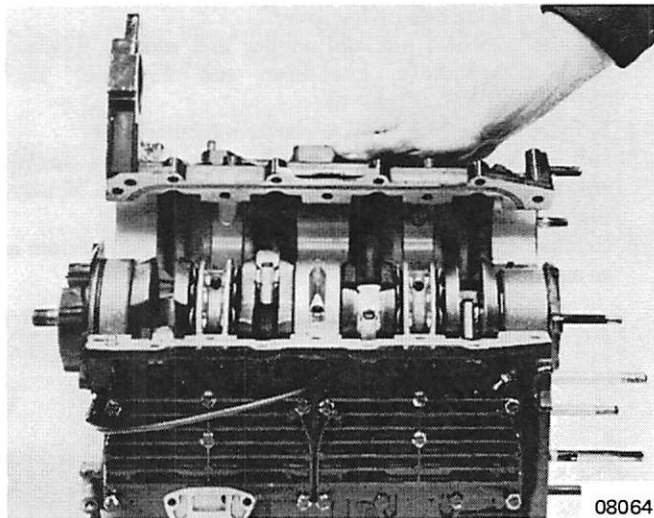

Figure 2. Removing Crankcase Cover
2. Remove crankcase cover and end cap bolts and remove crankcase cover. (Figure 2)